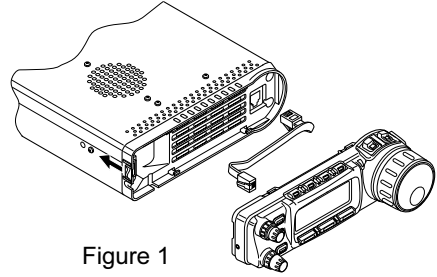

Figure 1
2. Referring to Figure 1, slightly pry open the latch on the left side of the transceiver and then slide the panel outward and away from the transceiver. Disconnect the connection cable which is connected between the transceiver body and its front panel.